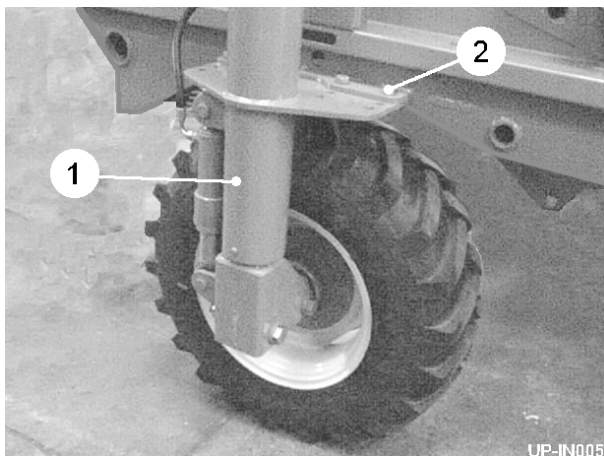
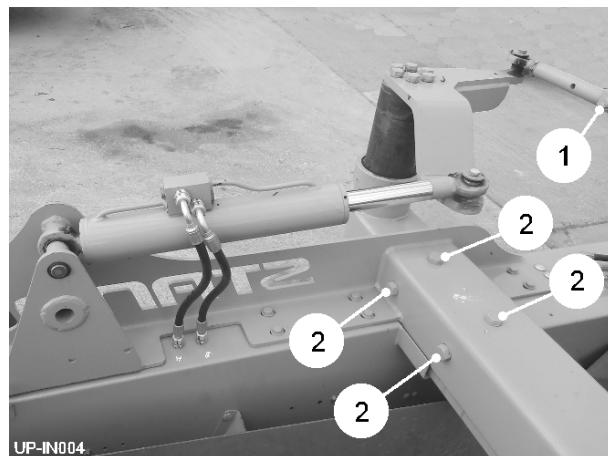

Fig 6
Fig 7
Each wheel is carried by a wheel leg pillar (item 1, fig 6) The pillars have a top and bottom flange plate containing a series of fixing holes. Moving the pillars in or out adjusts the wheel centres to suit the selected bed width. Both wheel legs must be set to the same hole positions so that the wheels remain symmetrical about the centreline of the machine. Lifting equipment must be used when setting the wheels.
Release the track rod locking bolts (item 1, fig 7) and remove the flange plate mounting bolts (item 2, fig 6 & item 2, fig 7). Using lifting equipment, carefully slide the leg pillar to the required position. Refit the mounting bolts (item 2, fig 6 & item 2, fig 7) through the relevant hole in the flange plates. Repeat the procedure for the opposite wheel. Finally, set the track rod to the correct length and secure using the locking bolt. Ensure all nuts and bolts are fully tightened after adjustments have been completed.